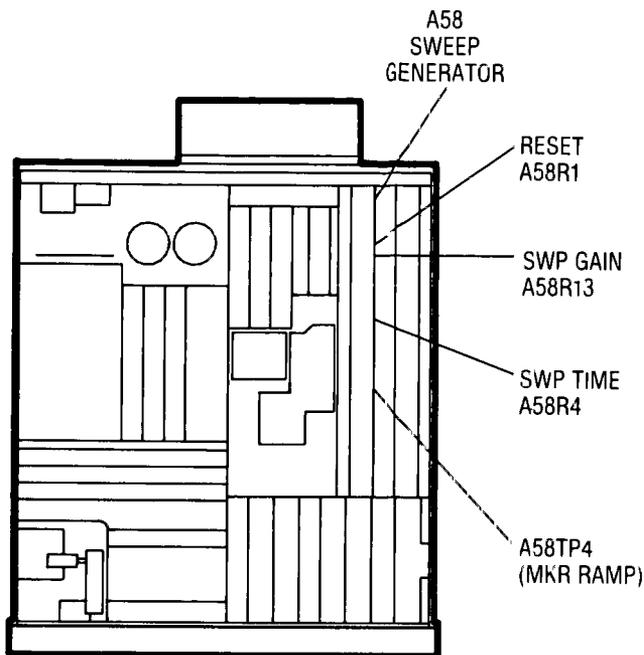
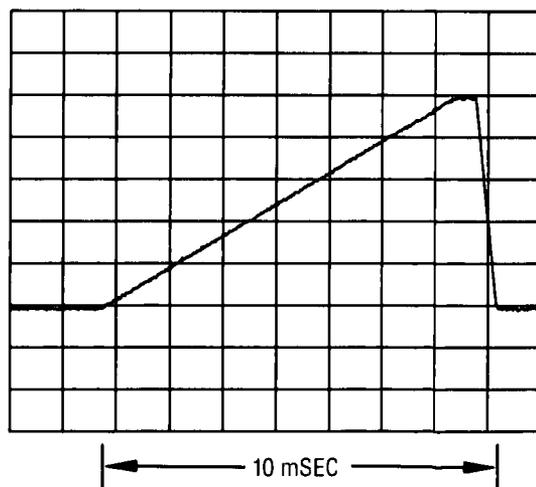
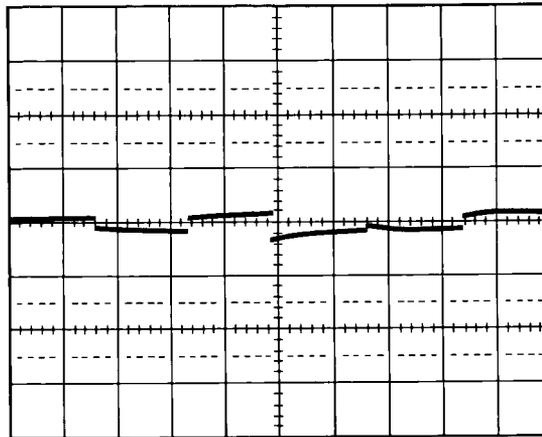

Figure 5-37. Sweep Generator Adjustments Location
Figure 5-38. Sweep Ramp at A58TP4
Figure 5-39. Reset Pulse Adjusted to Zero Volt Average
- Adjust A58R4 (SWP TIME, Figure 5-37) for a 10 ms ramp on the oscilloscope (Figure 5-38).
8. Adjust A58R1 (RESET, Figure 5-37) for as close as possible to zero Volt average on the oscilloscope. (See Figure 5-39.)